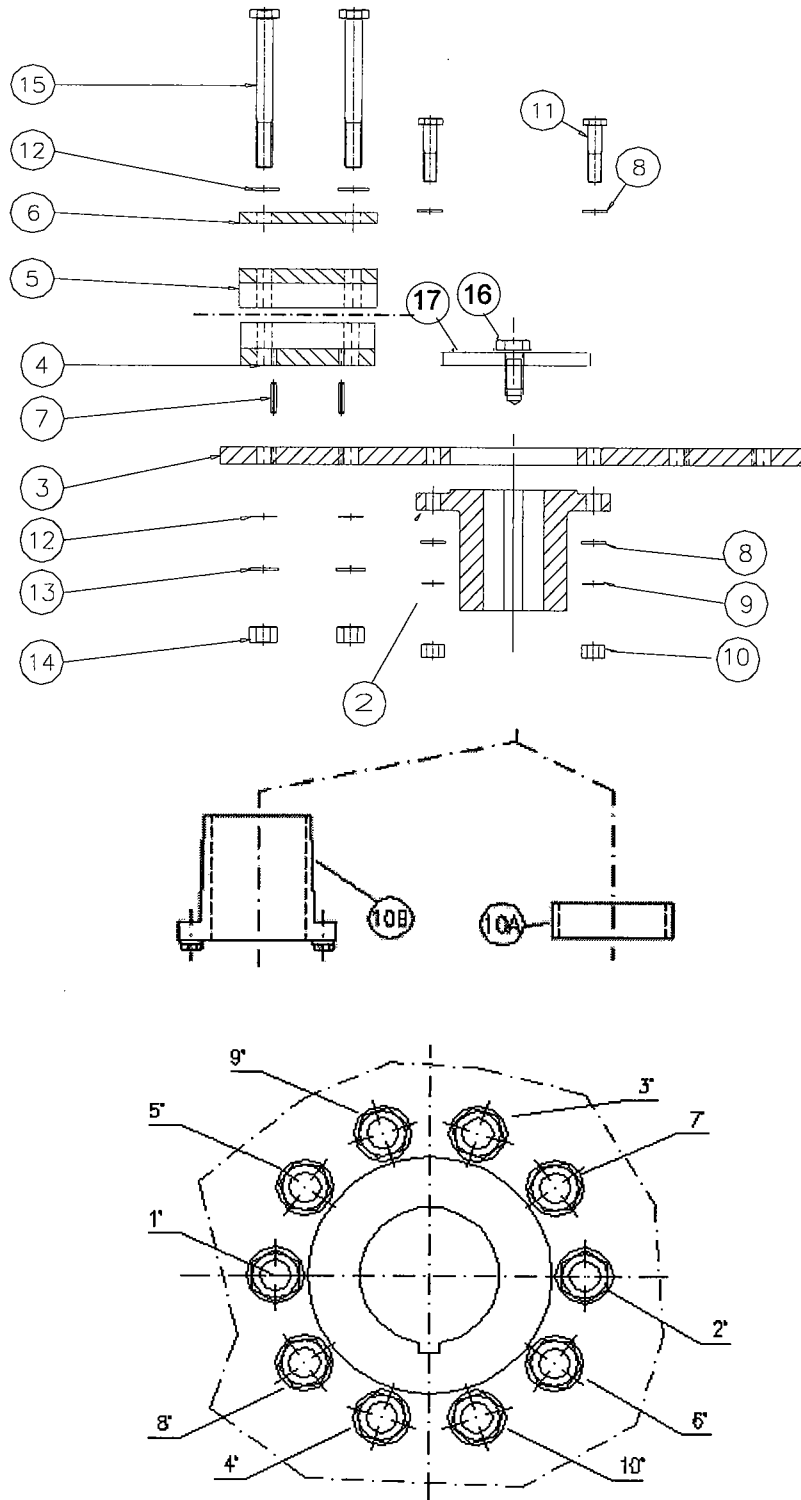

Figure 3
- a) Remove blade pillow block and fasteners (4), (5), (6), (7), (15) from the hub disk, one set a time (figure 3).
- b) If the hub has not been supplied already assembled to the flange, install the coupling flange (2) on the disk (3), complying with torque setting, bolt orientation, tightening order, and pins as shown in following figure 3.
c) Hub into driveshaft installation (Figure 3)
Sandwich the blade shank between the pillow blocks (4) (5), ensuring both the pins (7) are in proper position (figure 3).
Fit pillow blocks (4) (5), pins (7), pillow block plate (6), blade and pillow block fasteners (15) on hub disk as shown in previous figure 3 without tightening bolts.